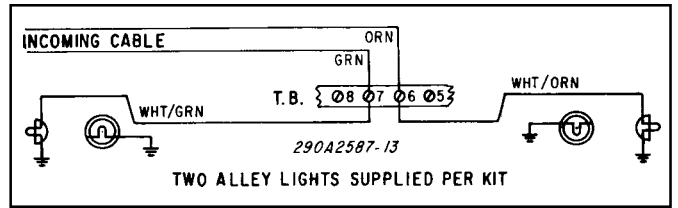

Figure 2.
3. See figure 2. Connect the male terminal end of the supplied white with orange stripe wire to the mating terminal at the side of the left alley reflector assembly. Connect the female terminal on the wire's other end to the terminal block position which connects to the incoming cable's orange wire.
4. See figure 2. Connect the male terminal end of the supplied white with green stripe wire to the mating terminal at the side of the right alley reflector assembly. Connect the female terminal on the wire's other end to the terminal block position which connects to the incoming cable's green wire.